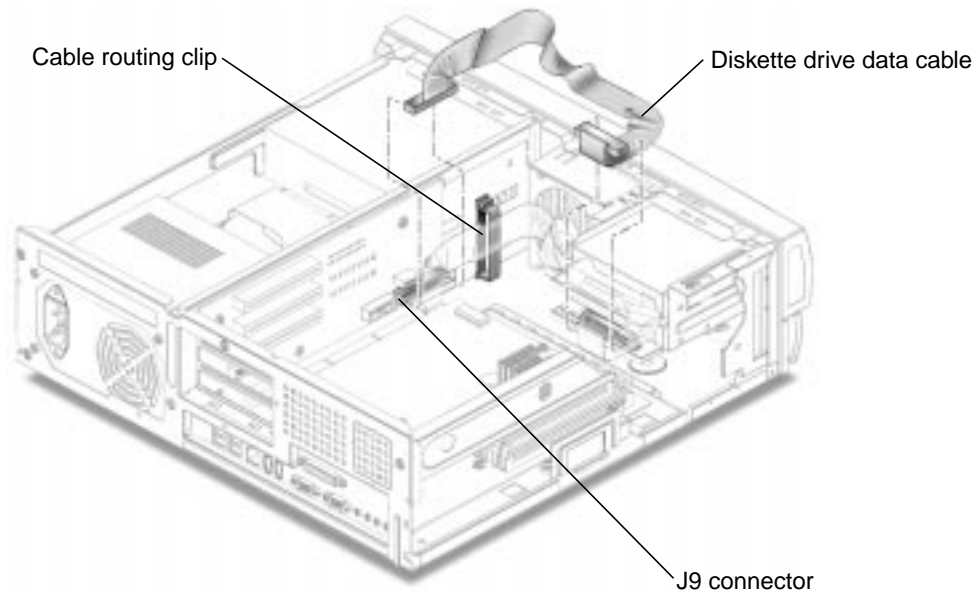

FIGURE 6-2 Removing and Replacing the Diskette Drive Cable Assembly
2. **Remove the diskette drive data cable assembly connectors from the following (FIGURE 6-2):**
3. **Open the two cable routing clips (FIGURE 6-2).**
1. **Position the diskette drive data cable assembly into the chassis (FIGURE 6-2).**
2. **Close the two cable routing clips (FIGURE 6-2).**